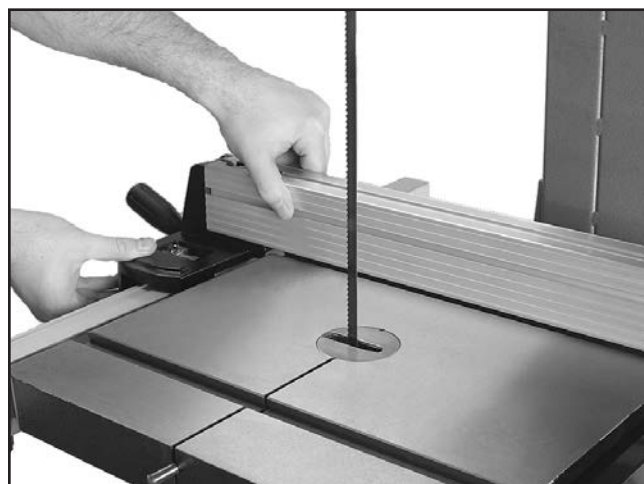

Figure 12. Example of installing fence onto rails.
16. Pull the fence handle up and place the fence on the front fence rail, as shown in **Figure 12**.